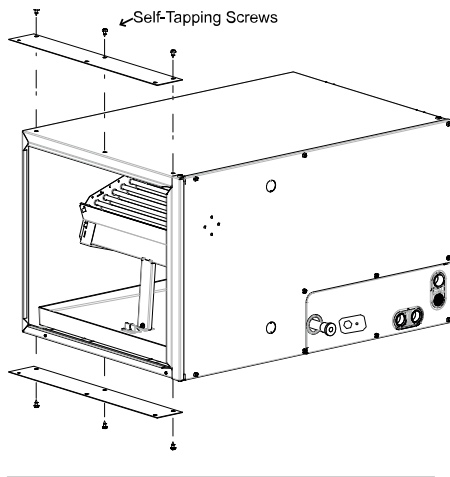

Fig. 6 – Horizontal-Right Installation
1. Use field fabricated attachment plates to secure coil to furnace. See Fig. 6.
4. Use self-tapping screws to attach furnace. See Fig. 6.